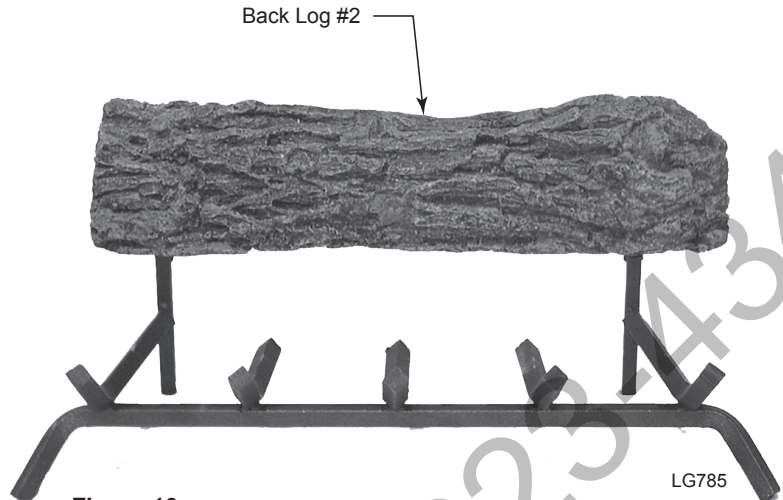

Figure 16 - Place Back Log #2 on Grate Bars at Back of Grate
1. Place Back Log #2 on grate bars on back of grate. *Figure 16*